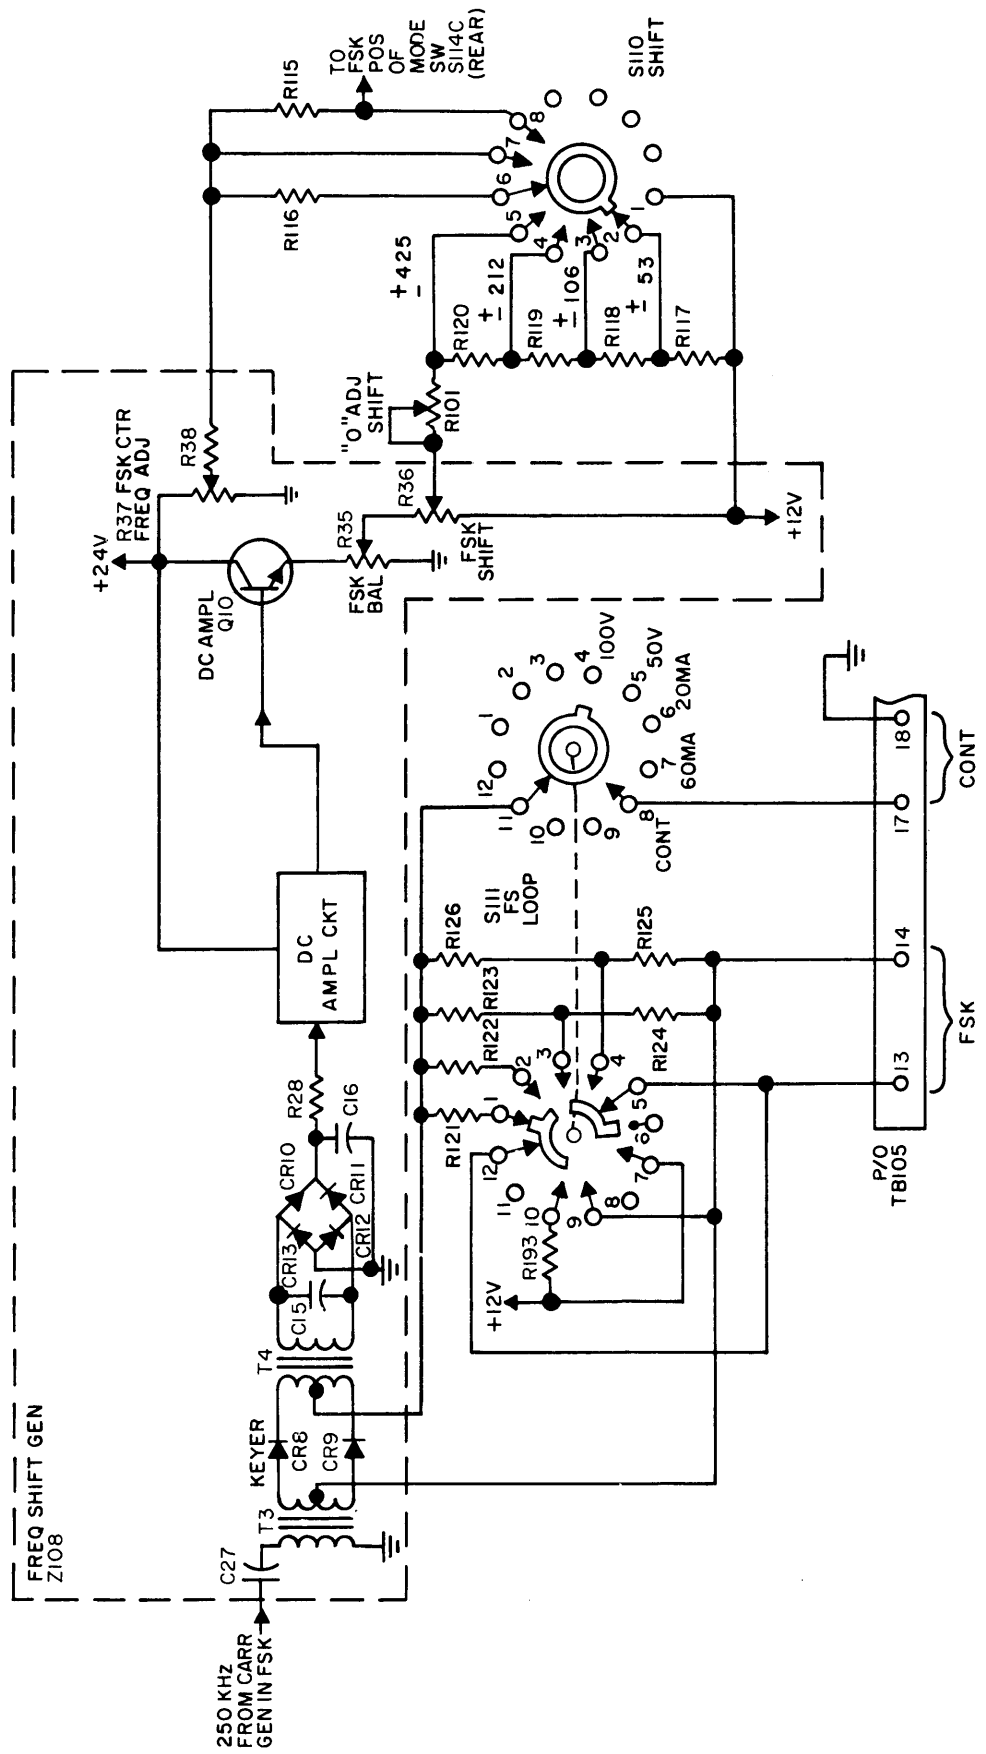

Figure 4-5. Frequency Shift Keyer Circuit, Simplified Schematic Diagram
i. **FREQUENCY SHIFT GENERATOR Z108.** (See figure 4-5 and 7-13.) The frequency shift keyer consists of four distinct sections; namely the 2.75 kHz converter section, the 3 MHz carrier and VXCO buffer-amplifier, the FSK keyer and modulator, and the FAX circuit.
(1) The converter and ALDC circuit performs the function of translating a 250 kHz input signal to an rf output carrier of 3 MHz. The 250 kHz input can be an AM signal; USB and/or LSB intelli-
(2) Both FSK and FAX operation is initiated when MODE switch S114B (front) is set to either the FSK or FAX position as previously indicated in the discussion of MODE switching. In either of these positions, S114B supplies a +12 vdc enable to both the 3 MHz crystal controlled oscillator Z302 in the power supply assembly, and to the 3 MHz buffer-amplifier circuit in frequency shift generator Z111. With MODE switch S114 in the FSK position, S114A (rear) routes the 250 kHz subcarrier frequency from carrier generator Z109 to the frequency shift generator keyer circuit consisting of coupling transformers T3/T4 and keyer diodes CR8/CR9. The keyer circuit is, in effect, a modulator, in that the 250 kHz input is interrupted by a dc current representing marks and spaces from an externally connected dry-contact keyer or teletype at terminals 13 and 14 of TB105. (See figure 4-5.) The keyer input is connected to the modulator through FS LOOP switch S111 which is set to the 100V or 50V positions when dry contacting keying is used, and to the 20 mA or 60 mA positions to match the dc battery loop when a teletype keyed input is used. The external keying rate is 200 WPM and 75 bauds. By keying the 250 kHz subcarrier, a frequency shift above and below center frequency is obtained, corresponding to the marks and spaces of the teletype input. This signal is coupled through T4 to the full-wave bridge rectifier consisting of diodes CR10 through CR13; the resultant varying dc signal is then applied to a series of three dc amplifiers, Q7 through Q9, and an output emitter-follower, Q10. (See figure 7-13.) Amplifier Q8 is inserted in the circuit when dc SENSE switch S109 is in the + position; otherwise, in the - position, Q8 is bypassed. The variable dc output is developed across FSK Shift potentiometer R36; the dc output is coupled to SHIFT switch S110. FSK Center Frequency Adjust potentiometer R37 sets the average level about which the dc signal varies, and thus the center frequency of the VXCO in the power supply assembly. Dc regulator Q5 provides a regulated 24 vdc to the dc amplifier circuit from the +24 vdc supply input line; regulator Q11 supplies a regulated +12 vdc to SHIFT switch S110 and R36 from the +12 vdc MODE switch input. SHIFT switch S110 effectively sets the amplitude of the dc signal varying about the average dc level as set by R37. By changing the maximum amplitude, the shift in VXCO output frequency is correspondingly changed to provide the desired shift above and below center frequency. The varying dc output from the SHIFT switch is coupled through the FSK position of MODE switch S114C and sent to the 3 MHz VXCO in the power supply assembly.